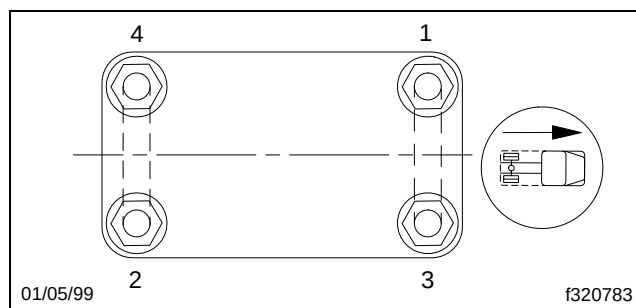

Fig. 4, U-Bolt Nut Tightening Sequence
- 19.3 Replace the second U-bolt on the left side, and evenly tighten the U-bolts 60 lbf-ft (81 N·m) in the sequence shown in **Fig. 4**.